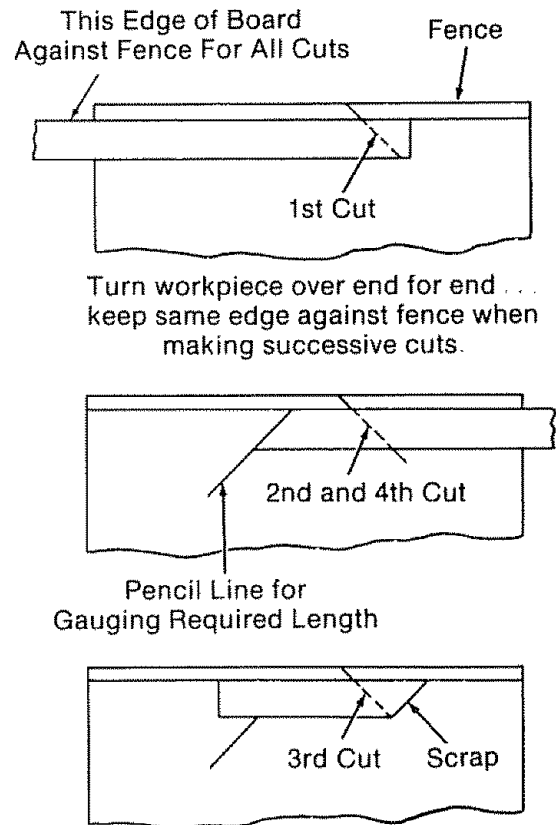

Fig 138 - Making a 4-Sided Frame
3. Place the same edge of the workpiece against the fence for all cuts. Make the first cut at one end of the workpiece, then flip the workpiece over and make the second cut from the other end. Continue this way until all four cuts are made. (Figure 138)